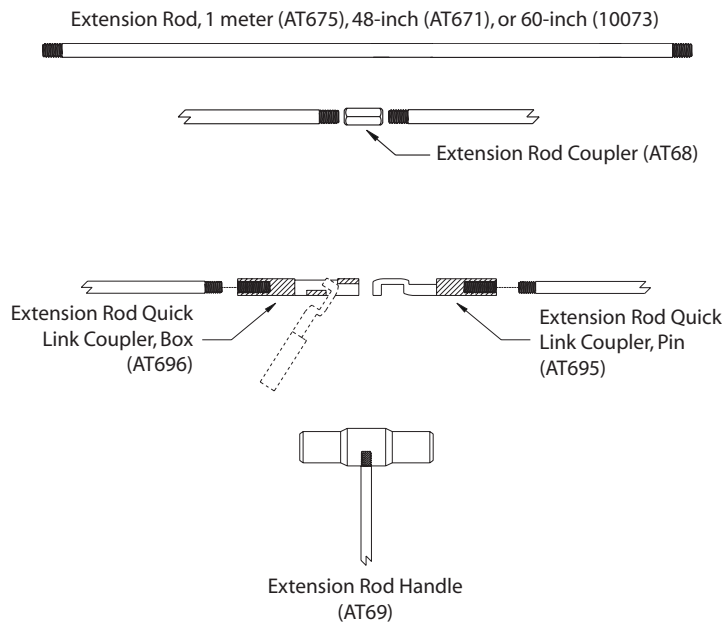

FIGURE 4.5
- c) If the risers continue to move up with the probe rods and cannot be held in place by hand, sand heave has most likely caused the screen to bind to the inside of the rods. Extension rods are now required. (Refer to Figure 4.5 for an illustration of extension rod accessories.)